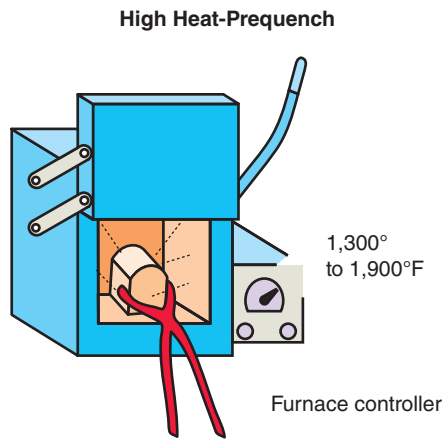

Figure 15-4 Heat to the recommended conversion temperature.
*Heating thoroughly to a specific prequench temperature of 1,300 to 1,900°F, depending on the alloy (700 to 1,000°C). Temperature varies by alloy. It's called the **critical temperature** or also the **transformation or conversion temperature** (Fig. 15-4).*